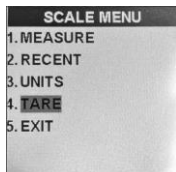

Figure 9: Tare/Zero Screen
6. The Tare/Zero screen (Figure 9) displays on the hand controller.